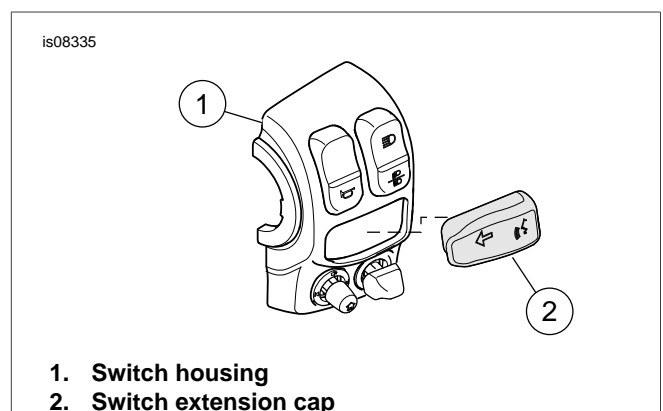

Figure 2. Switch Extension Cap Installation (Left Side Shown)
3. See Figure 2. Install the extension cap (2) on the inboard side first. Then press the outboard side down until an audible click is heard.